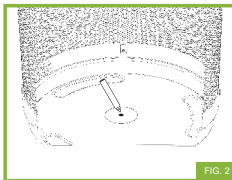

FIG. 2
- 4 Flip your VistaBin back over so base is on the ground. Move bin to desired location and mark the ground through the hole in base using chalk or a marker. **(FIG. 2)**